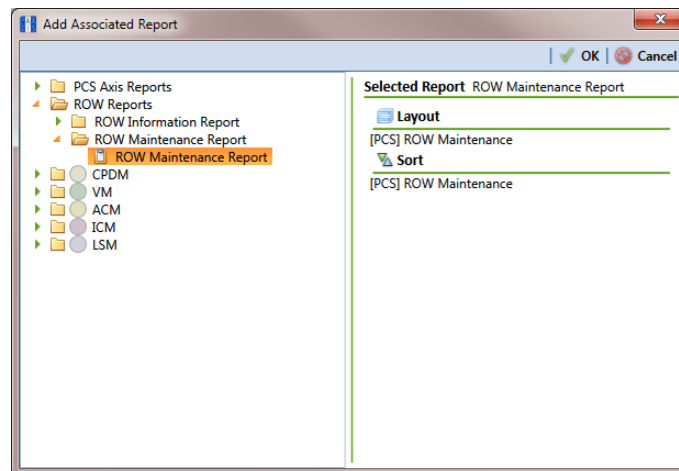

Figure 12-9. Add Associated Report
- a** Click  **Add Associated Report** to open the *Add Associated Report* window (Figure 12-9).